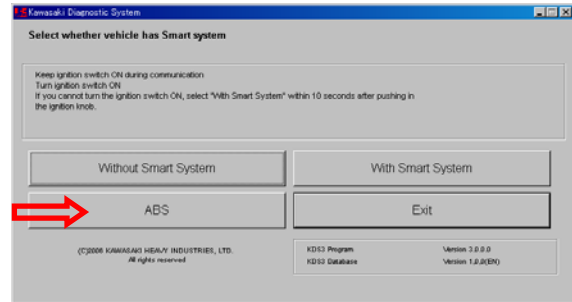

Fig. 7-7 Start Menu
- Go to the *Main Menu*. Fig. 7-7